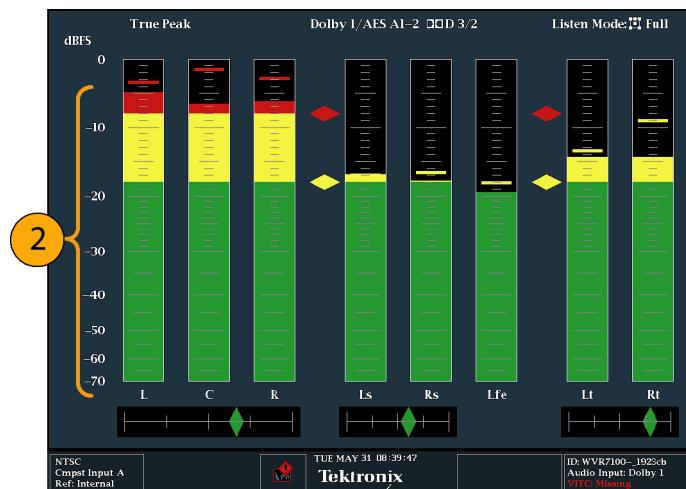

Figure 56: Audio levels
3. Check the level meter bars for current audio levels, which are displayed according to the selected meter ballistics. Each bar displays three colors. (See Figure 56.)